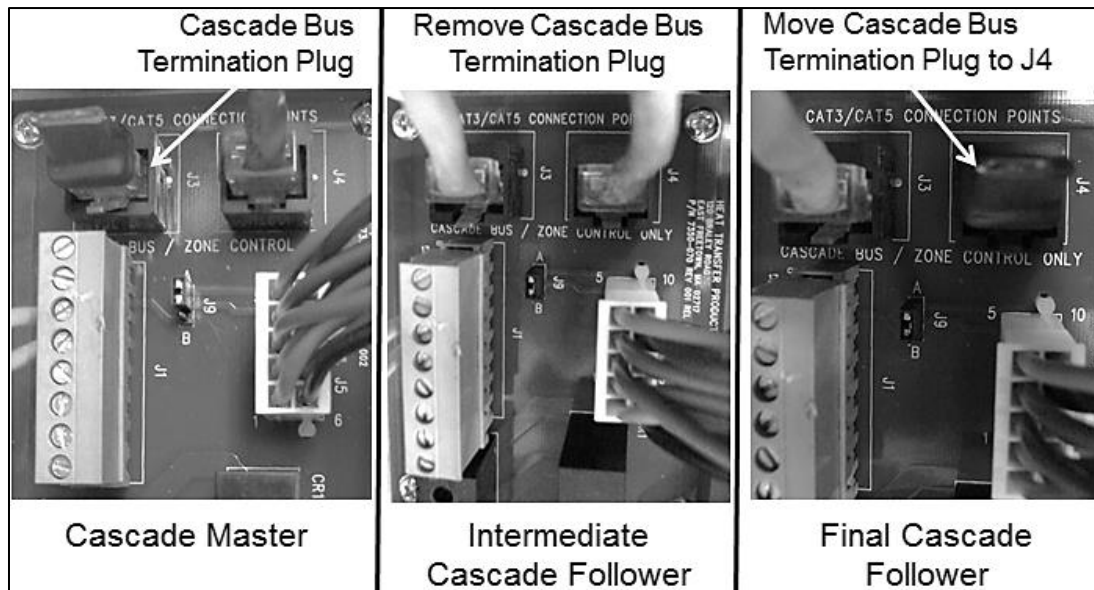

Figure 22 – Cascade Resistor Plug Installation Detail
1. A Cascade Bus Termination Plug has been installed on the customer connection board of this boiler. The purpose of this plug is to stabilize communication between multiple boilers and reduce electrical "noise". See Figure 22 for Cascade Bus Termination Plug installation detail.